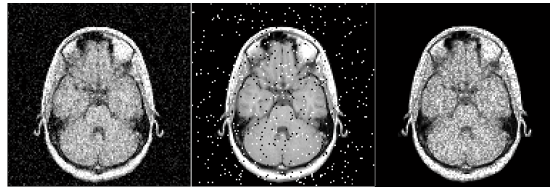

Figure 6.13: Image Noise. An example is shown for applying various image noise.
-  : Add noise to matrix (Figure 6.13)